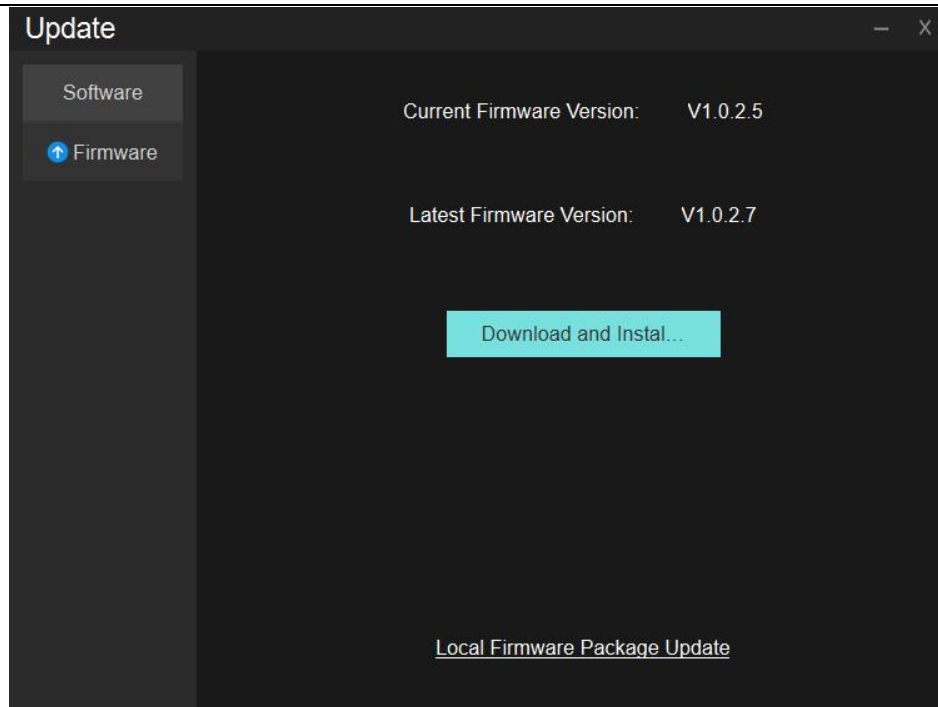

Figure 5-5 Firmware Update
1. Connect the device. When online, the software will automatically check whether the device's firmware and screen have been updated to the latest versions, and display corresponding prompts, as shown in Figure 5-5.
2. Click "Confirm" to proceed with the firmware upgrade, and the software will jump to the "Upgrade" window. Select "Download and Install Latest Version" to initiate automatic firmware download and installation when connected to the internet, as illustrated in Figure 5-5.